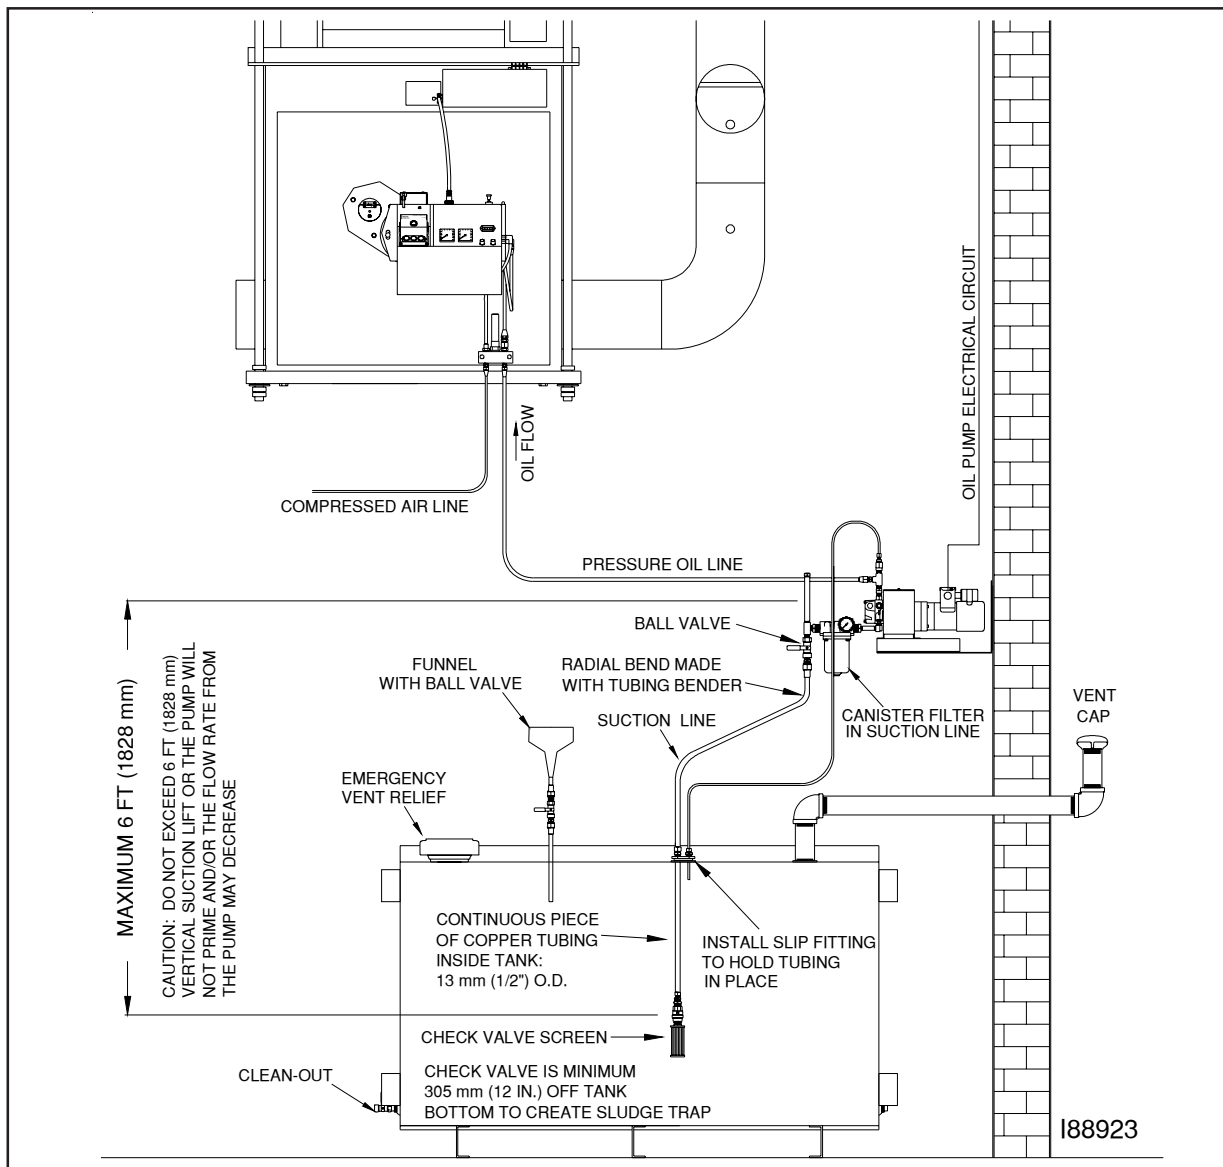

Figure 4J - Oil Line Installation Overview
- u. Install a vent from the tank to the outside of the building according to code. The tank must be properly vented to allow air to enter the tank as oil is pumped out and to safely vent fumes to the outside. See Figures 4J.
4. Install 1/4" O.D. copper tubing (user-supplied) from the pressure relief back to the oil tank. Refer to Figure 4J as needed.